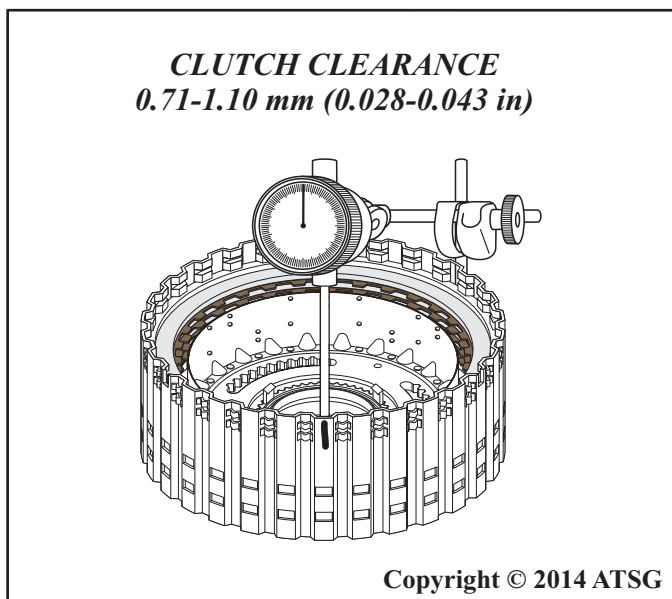

Figure 90
46. Using ST Clutch End Play Gauge 307-555 and Holding Fixture 100-002 or similar holding fixture and adapter, set the forward clutch assembly on the fixture and install the dial indicator positioning the plunger so it fits in the opening of the snap ring as shown in Figure 90.
48. Add measurements A and B together and divide the sum by 2 to give an average clearance reading. Clearance should be between 0.71-1.10 mm (0.028-0.043 in) as shown in Figure 90.